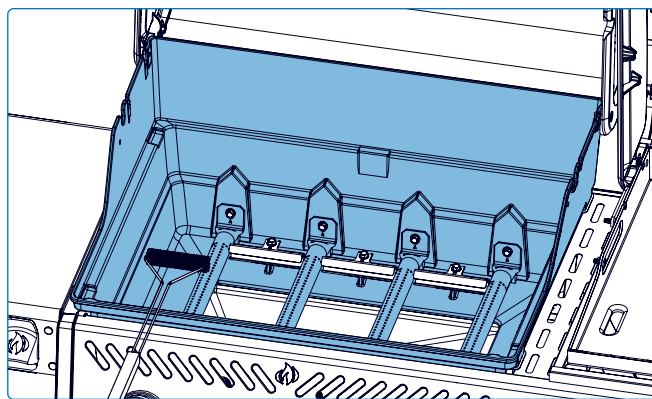

Fig. 23
1. Scrape out your drip pan using a putty knife or scraper (**Fig 23**).